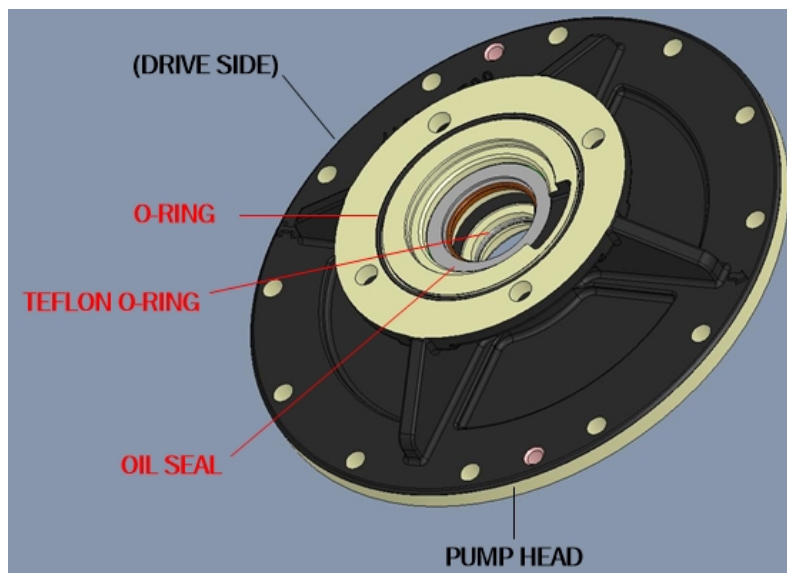

Figure 38. Pump Head (Drive Side)
2. Flip pump head over, drive side up (see Figure 38). Install following items as described below.